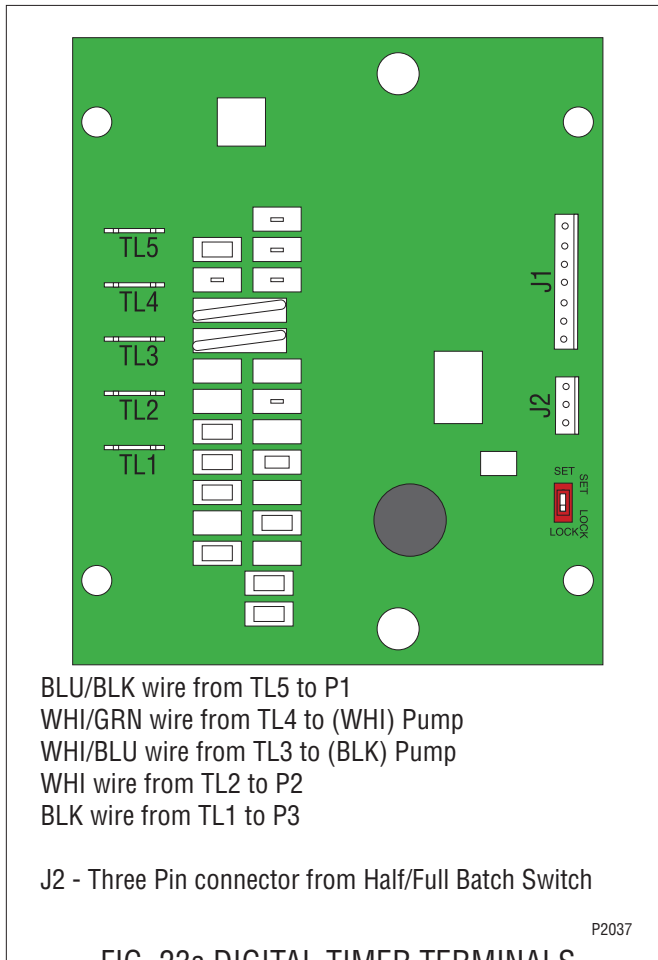

FIG. 23a DIGITAL TIMER TERMINALS
4. Attach all wires to the replacement timer board prior to installation to the component mounting bracket. Refer to FIG. 23a when reconnecting the wires.